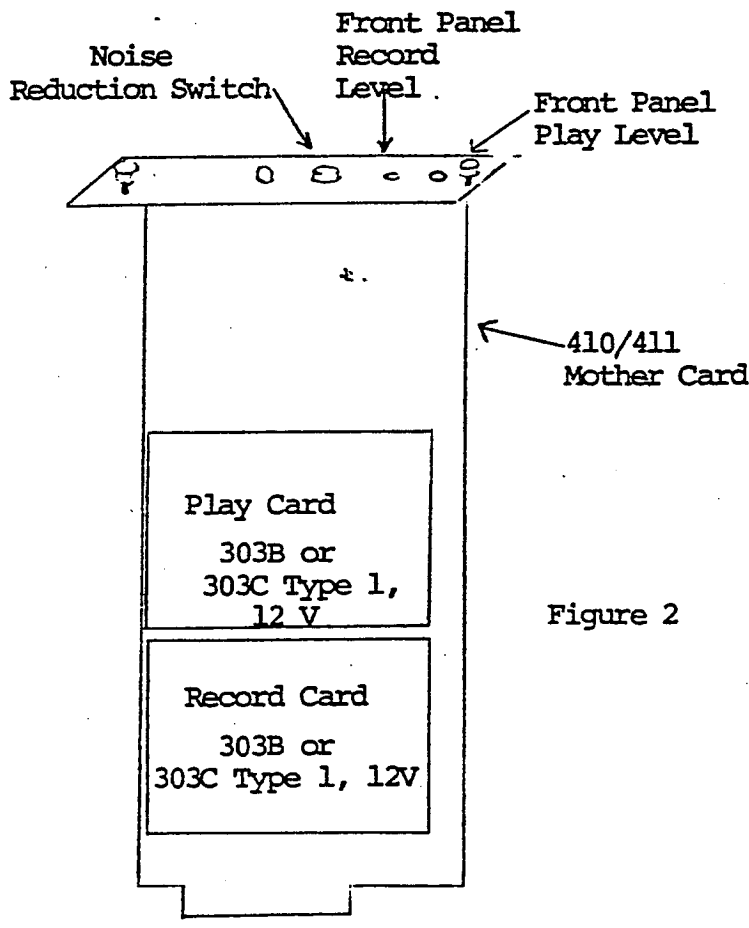

Figure 2
- e) Adjust R9 on Record Card (see Figure 2) for 0 +/- .5 dBm output.